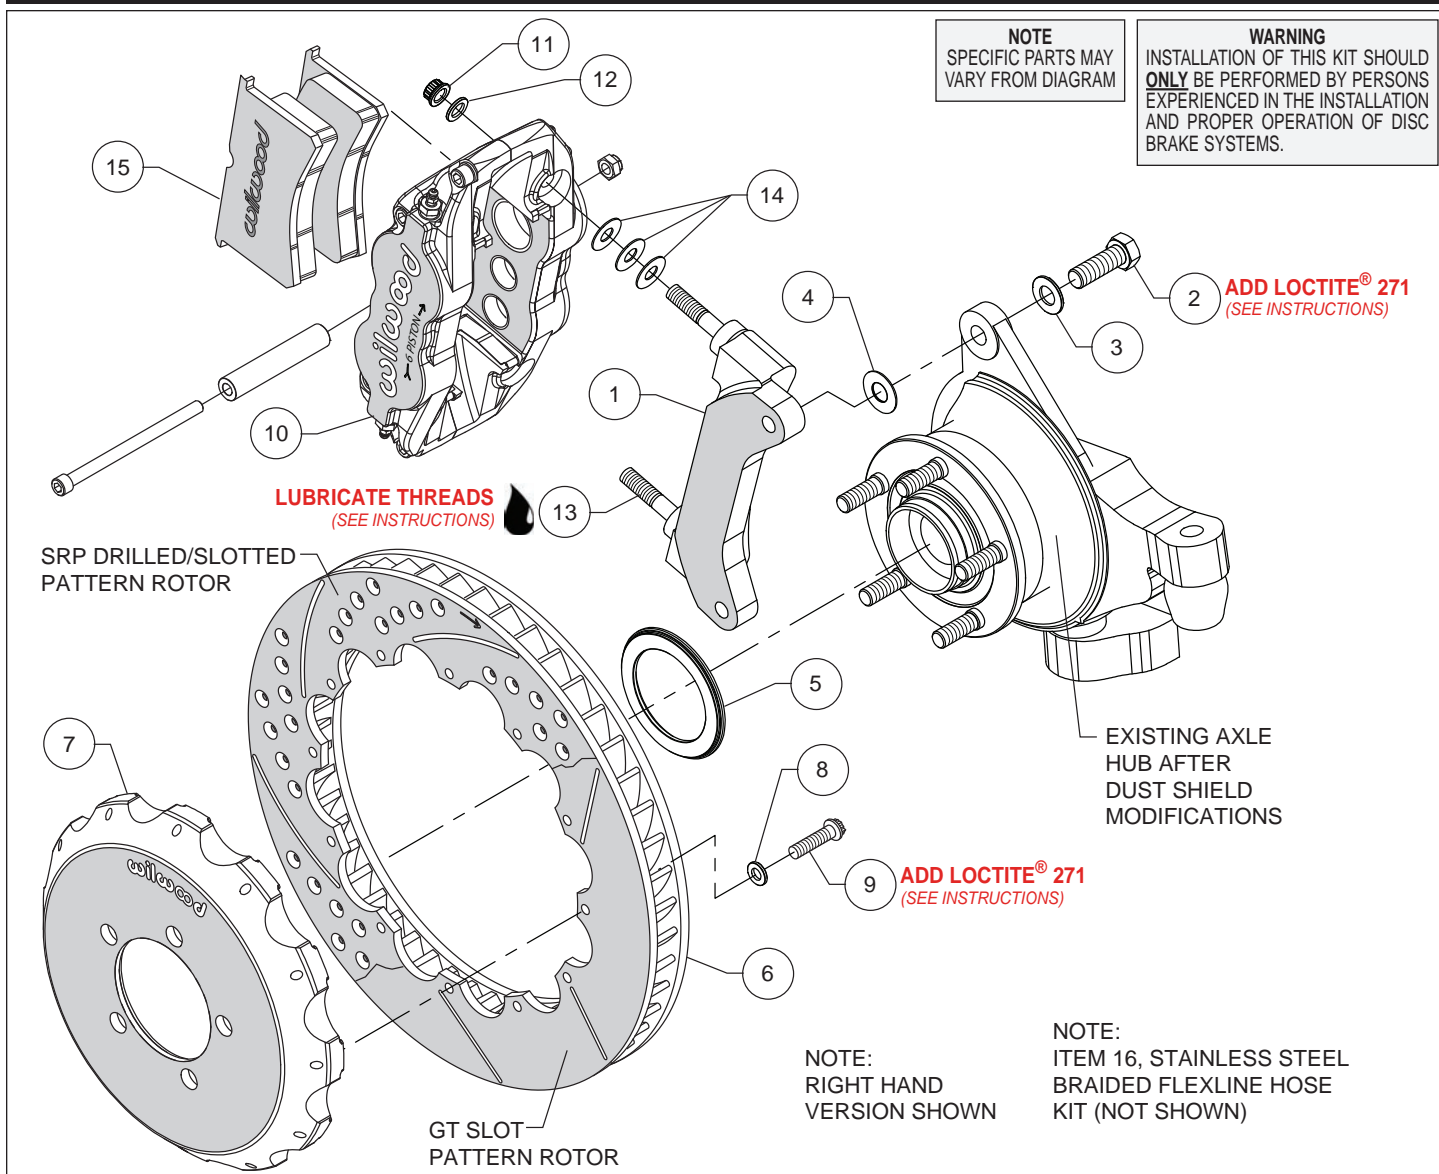
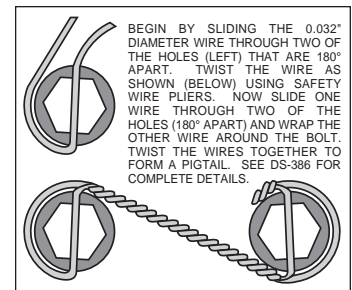

Figure 1. Typical Installation Configuration
Figure 4. Safety Wire Diagram
Assembly Instructions (numbers in parenthesis refer to the parts list and Figure 1 on the preceding pages):
- The caliper mount bracket (1) should initially be installed with clean, dry threads on the mounting bolts. Orient the bracket as shown in Figure 1, and install using washers (3) and bolts (2). Initially place one shim (4) on each bolt between the bracket and upright, Figure 1. Temporarily tighten the mounting bolts. **NOTE:** The bracket must fit squarely against the mount bosses on the upright. Inspect for interference from casting irregularities, machining ridges, burrs, etc. Later, after the caliper alignment has been checked, the mount bolts will be secured using red *Loctite*® 271.
- Orient the rotor (6) and the hat (7) as shown in Figure 1 and Photo 1. Attach rotor to hat using bolts (9) and washers (8). Using an alternating sequence, apply red *Loctite*® 271 to the threads, and torque to 155 **in-lbs**. For an added measure of security, the bolts may be safety wired using standard 0.032 inch diameter stainless steel safety wire as shown in Figure 4. Please refer to Wilwood's data sheet DS-386 (available at www.wilwood.com/Pdf/DataSheets/ds386.pdf) for complete safety wire installation instructions.
- Slide the rotor registration adapter (5) onto the axle register on the axle hub with the smaller O.D. facing outward, Photo 2. Slide the hat/rotor assembly onto the axle hub. **NOTE:** The hat must fit flush against the axle hub flange or excessive rotor run out may result. Install three lug nuts (finger tight) to keep the hat/rotor assembly in place while continuing with the installation.
- NOTE:** This kit contains distinct right and left hand calipers that must be mounted in a specific direction, as described below. Lubricate the caliper mounting studs (13) with lightweight oil. Initially place three .035" thick shims (14) on each stud as shown in Figure 1 and Photo 3. Mount the caliper (10) onto the bracket (1) using lock nuts (11) and washers (12), Figure 1. Ensure that the caliper is mounted so that the largest pistons are at the rotor exit end of the caliper, in relation to the direction of rotor rotation. Temporarily tighten the lock nuts and view the rotor through the top opening of the caliper. The rotor should be centered in the caliper, Photo 4. If not, adjust by adding or subtracting shims (4) between the bracket and the upright. Always use the same amount of shims on each of the two mounting bolts. Once the caliper alignment is correct, remove the bracket mounting bolts (2) one at a time, apply red *Loctite*® 271 to the threads, and torque to 60 ft-lb.